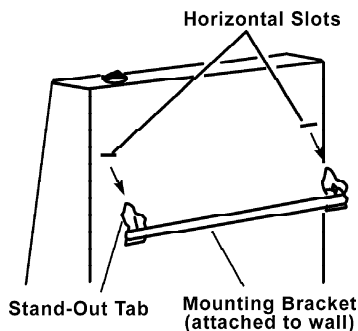

Figure 11 - Mounting Heater Onto Mounting Bracket
1. Locate two horizontal slots on back panel of heater (see Figure 11).